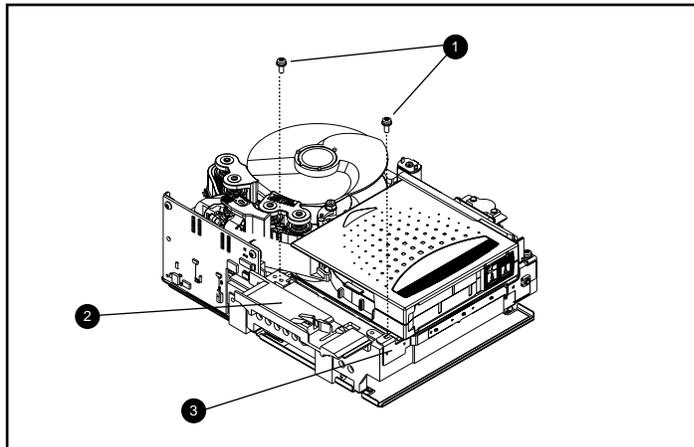

Figure D-4. Removing the left guide
1. Remove the two T8 Torx screws ❶ (see Figure D-4).
2. Pull the sheet metal panel ❷ towards the front of the drive so that the left guide ❸ may be lifted upward.
3. The left guide has a flex circuit attached which goes below the tape deck. Lay the left guide ❸ flat (as shown in Figure D-4), leaving the cartridge in the drive.